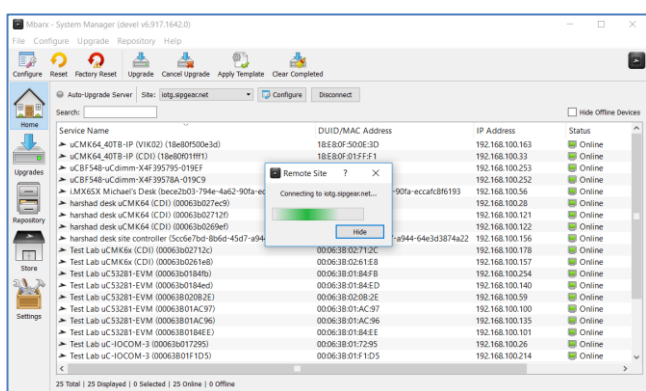

Figure 7 - System Manager Connecting to Remote Site
- Figure 7 - System Manager Connecting to Remote Site7